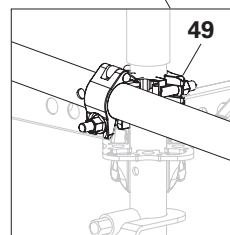

Fig. A15.06a
2. Install the inner tube or scaffolding tube on the standard (**12**) with a swivel coupling (**49**). Tighten the swivel coupling. (Fig. A15.06a)